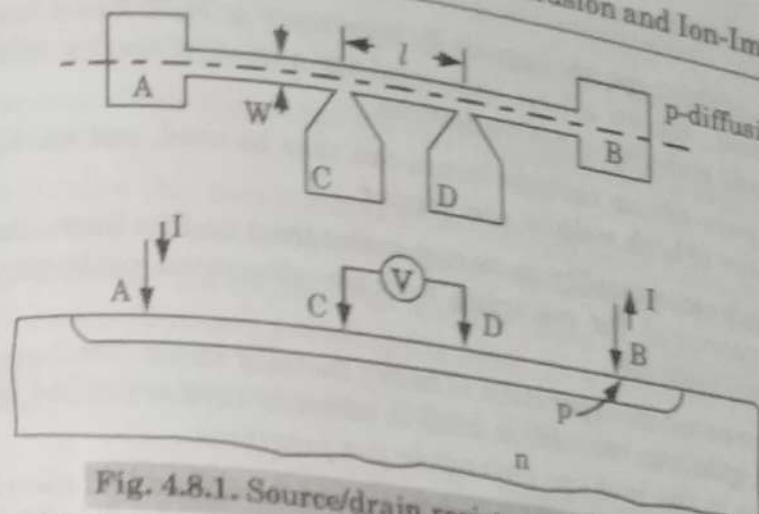

Fig. 4.8.1. Source/drain resistance test pattern.
1. In microcircuit fabrication, the sheet resistance of a diffused layer can be directly measured if it is made in the patterned shape shown in Fig. 4.8.1.
3. A constant current is applied across the points *AB*, and the voltage developed across *CD* is read with the aid of a high-impedance voltmeter. With reference to Fig. 4.8.1.